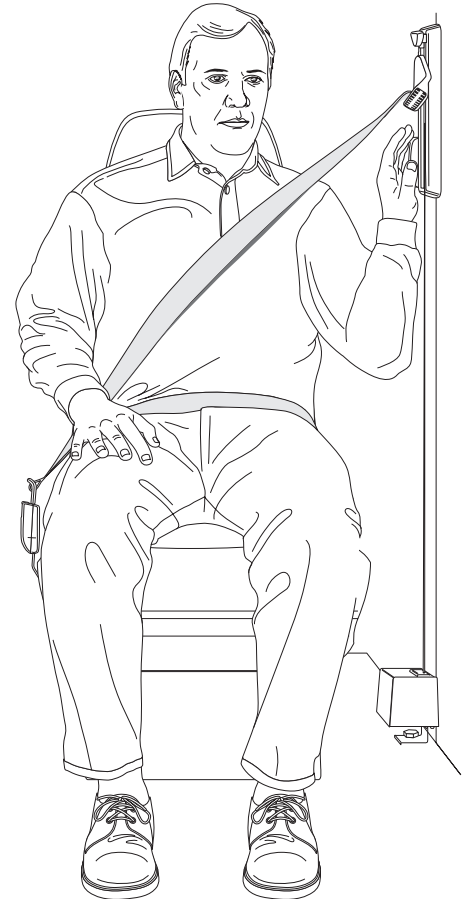

**Figure 1**
3. If available, adjust the Seat Belt Height Adjuster to a comfortable driving position, as shown in **Fig.1**.